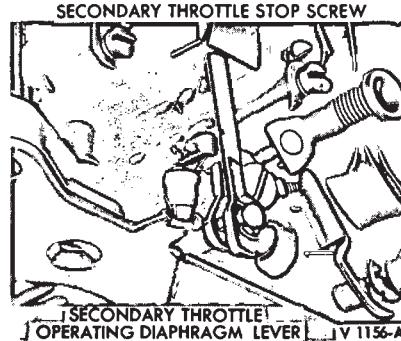

FIG. 8—Secondary Throttle Plate Adjustment
2. Turn the secondary throttle shaft lever adjusting screw (stop screw) out (counterclockwise) until the secondary throttle plates stick in the throttle bores (Fig. 8).